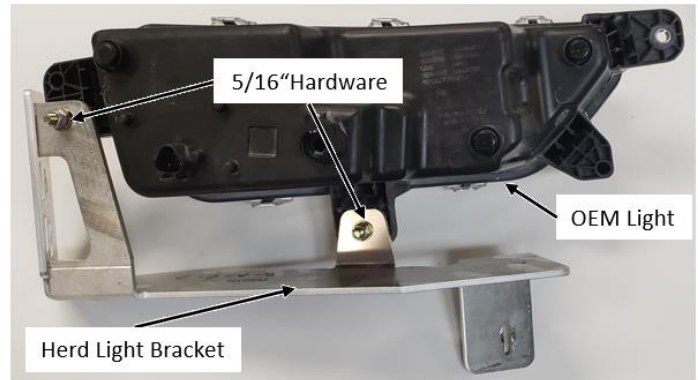

Figure 3b:
2. Mount OEM Lights to the Herd Light Bracket using 5/16" hardware, see Figure 3b.